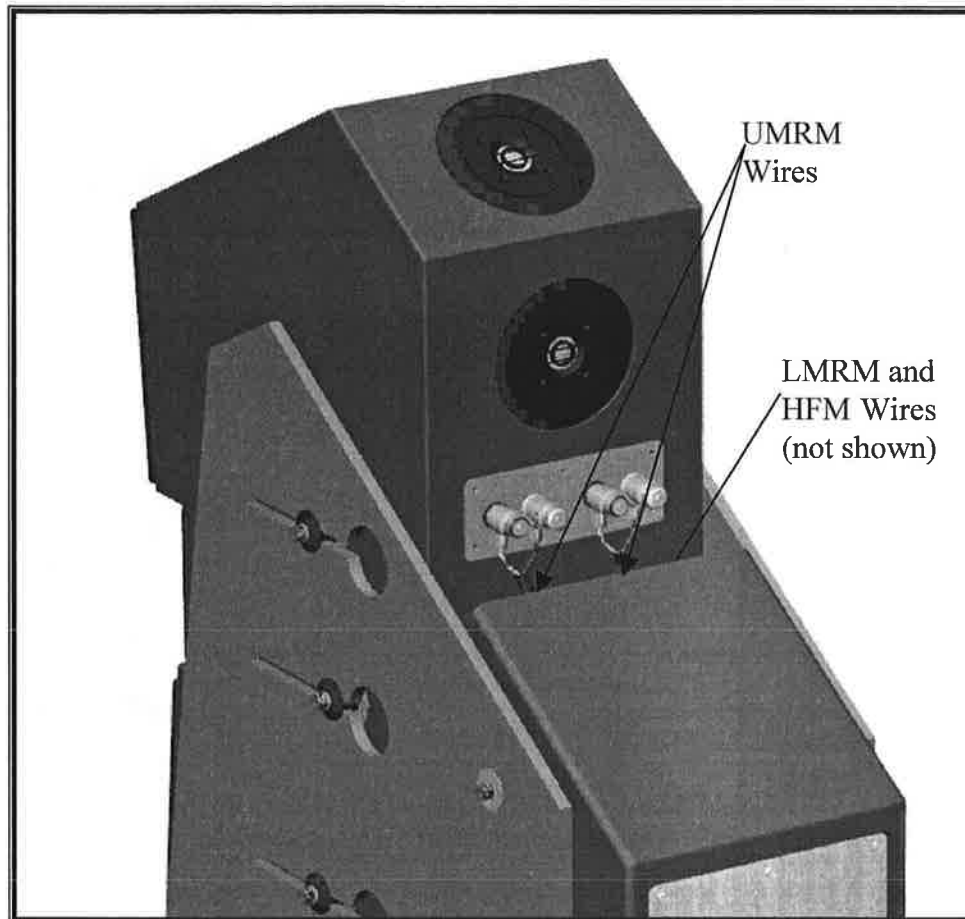

FIGURE 18 ATTACHING THE WIRING TO THE UPPER ARRAY
- Attach the labeled wires from to U C/O S-A to the correct upper array modules (see Figure 18 below)